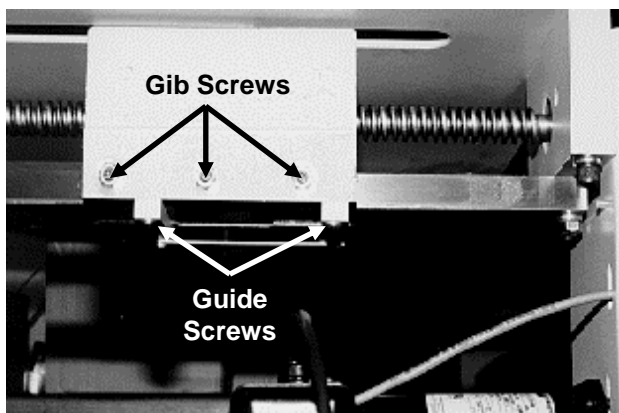

Figure 36
4. Loosen the side gib setscrews and the bottom guide screws (Figure 36).